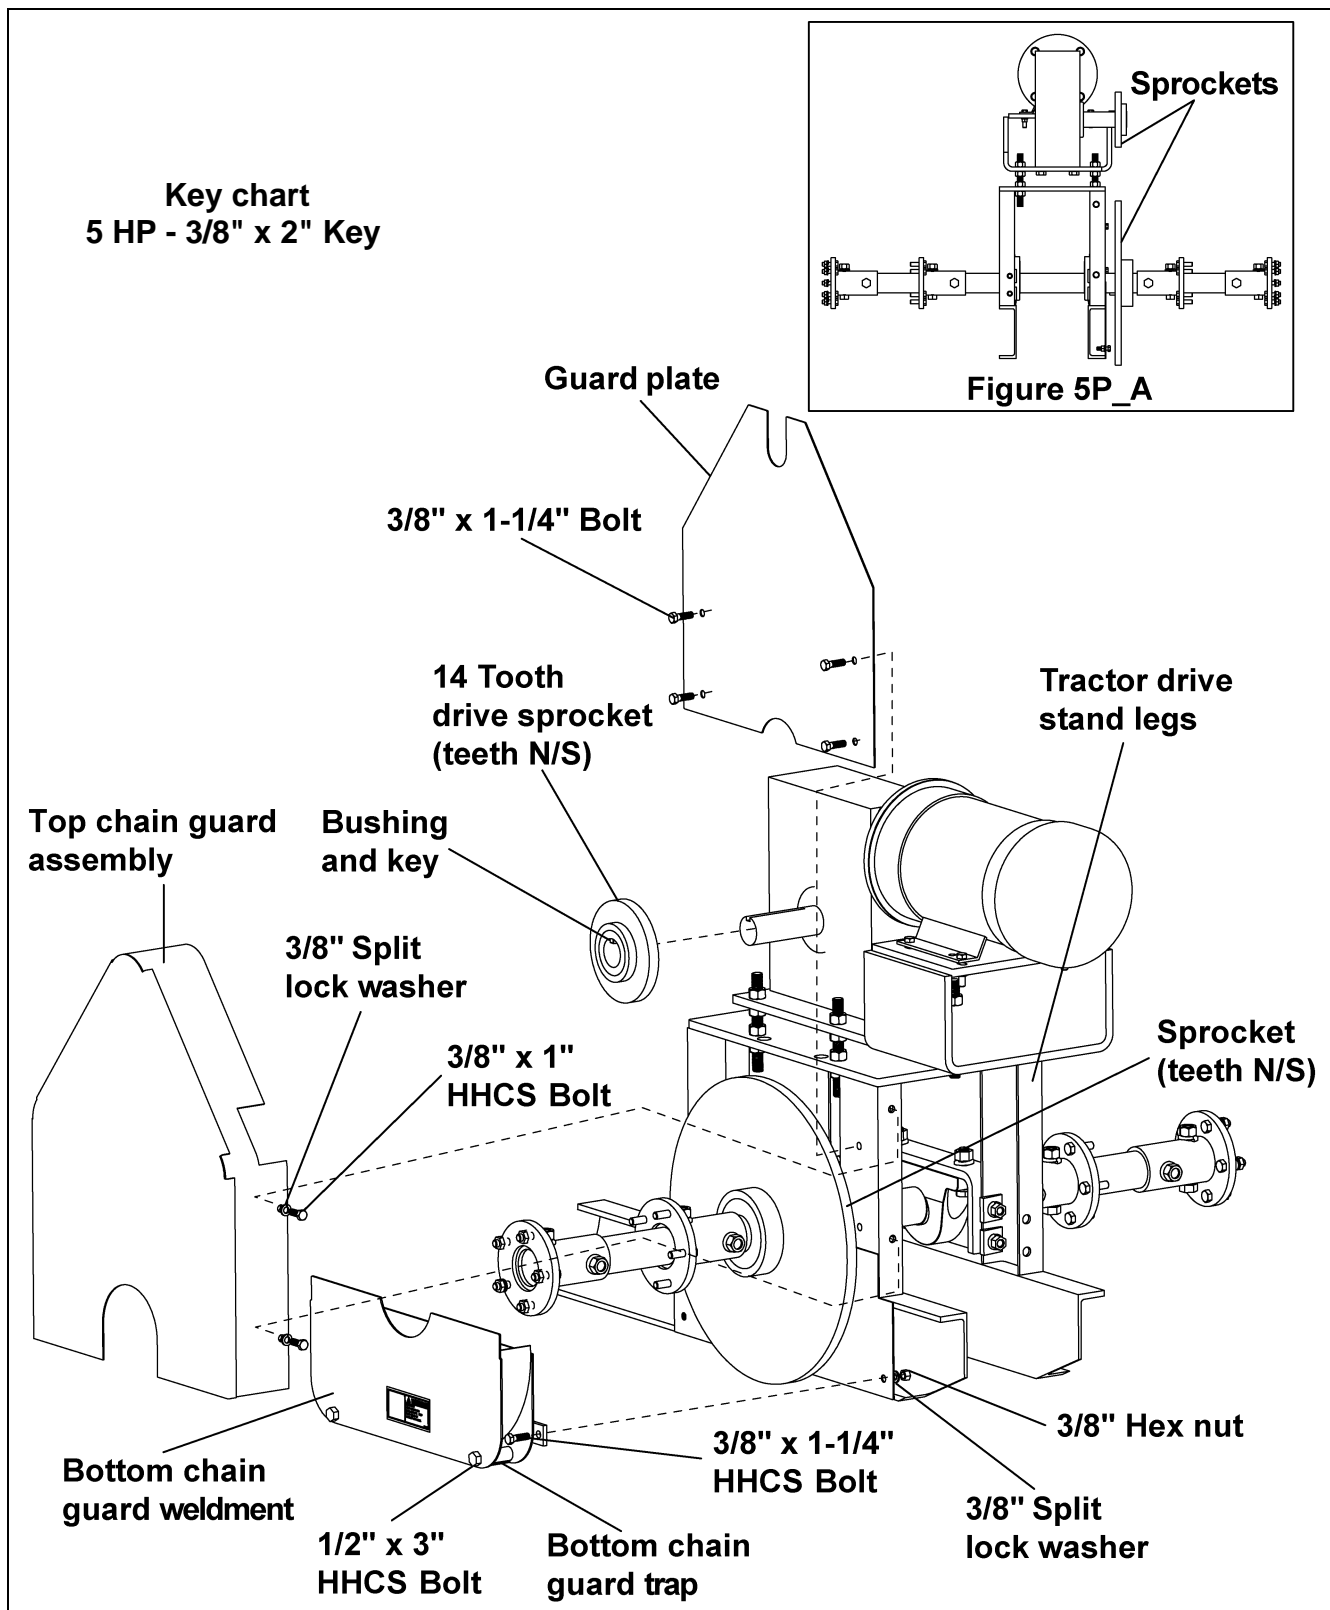

Figure 5P
- A. Attach the guard plate to the tractor drive stand legs using 3/8" bolts and nuts before attaching the drive sprocket. (See Figure 5P on Page 33.)
- B. Slide the fourteen (14) tooth (teeth N/S) drive sprocket, bushing and key (see key chart on Page 33 for the size key) onto the output shaft of the reducer, make sure both sprockets line up. (See Figure 5P and Figure 5P_A on Page 33.)
- C. Assemble the bottom chain guard trap to the bottom chain guard weldment using 1/2" x 3" HHCS bolts, 1/2" split lock washers and 1/2" hex nuts. (See Figure 5P on Page 33.)
- D. Attach bottom chain guard weldment to tractor drive stand using 3/8" x 1-1/4" HHCS bolts, 3/8" split lock washers and 3/8" hex nuts. (See Figure 5P on Page 33.)
- E. Attach top chain guard assembly to tractor drive stand using 3/8" x 1" bolts, 3/8" split lock washers and 3/8" hex nuts. (See Figure 5P on Page 33.)